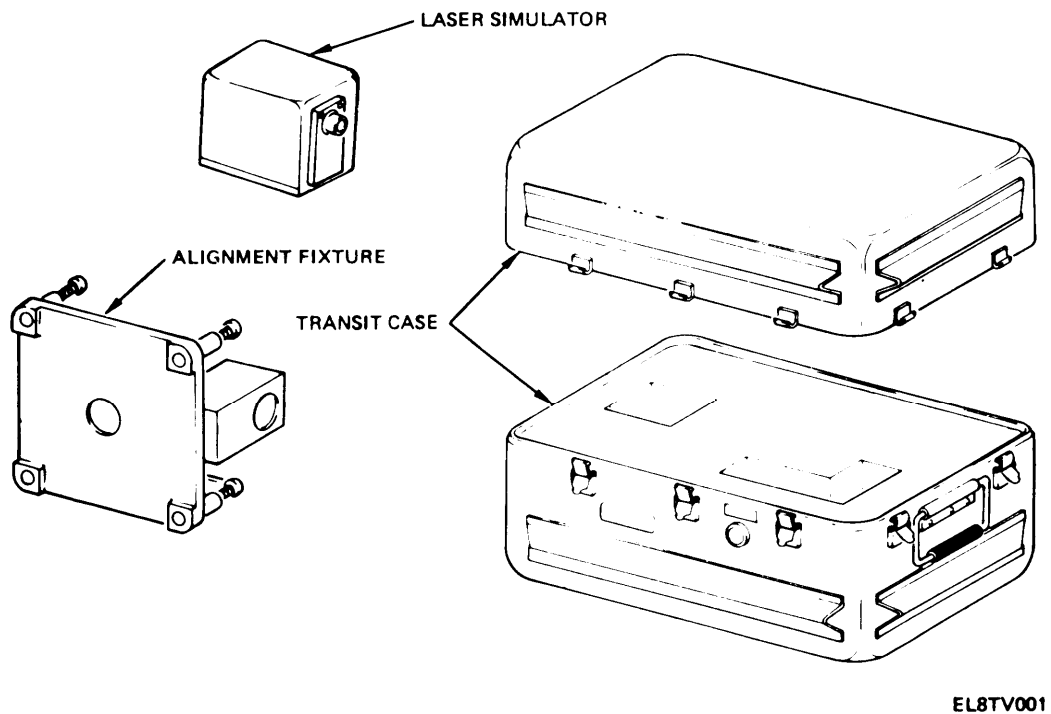

Figure 1-1. Airborne Laser Tracker Alignment Set, AN/AAM-56.
b. The Alignment Set (fig. 1-1) is used to ensure that the ALT tracks with the Telescopic Unit (TSU).